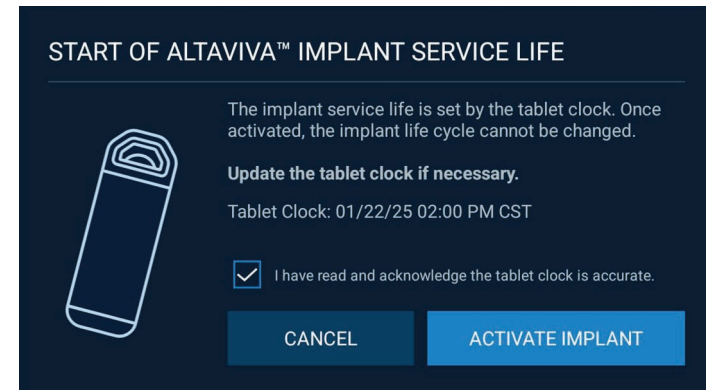

Figure 16. Start of Altaviva Implant Service Life notification
2. When stimulation is turned on for the first time for a neurostimulator, you will see a notification asking you to confirm that the correct time is set on the clinician tablet and informing you that turning on stimulation will start the implant's service life (Figure 16).
4. Tap the acknowledge checkbox. Then tap **ACTIVATE IMPLANT** to continue (Figure 16).